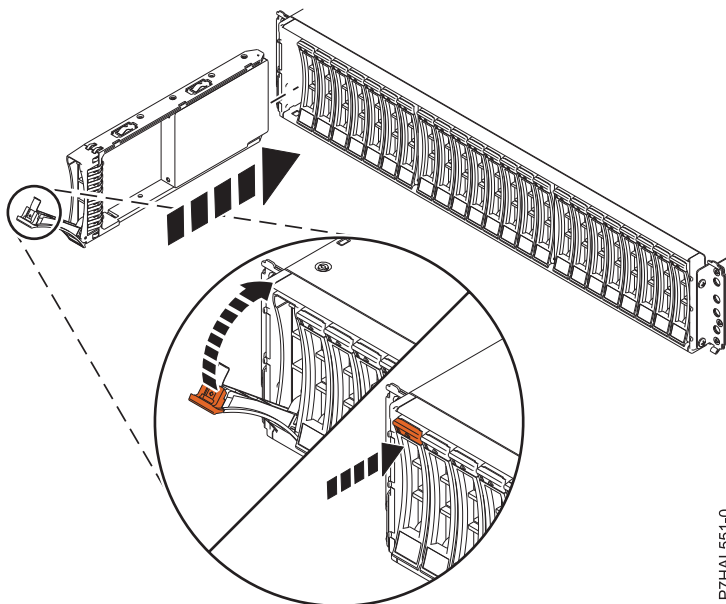

Figure 8. Installing or replacing the disk drive in the 5887 disk drive enclosure
3. With the handle in the unlocked position, as shown in Figure 8, support the bottom of the drive as you align it with the guide rails in the enclosure.
7. Lock the drive by rotating the handle (A) in the direction that is shown in Figure 8.